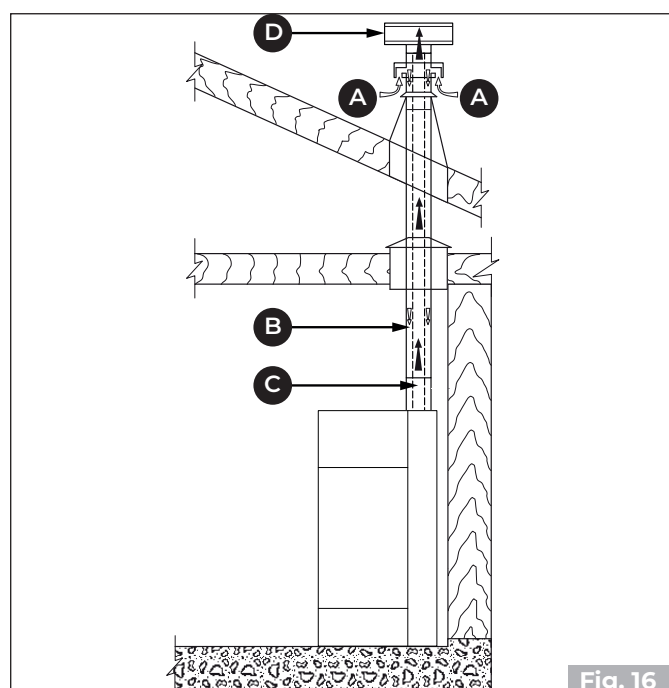
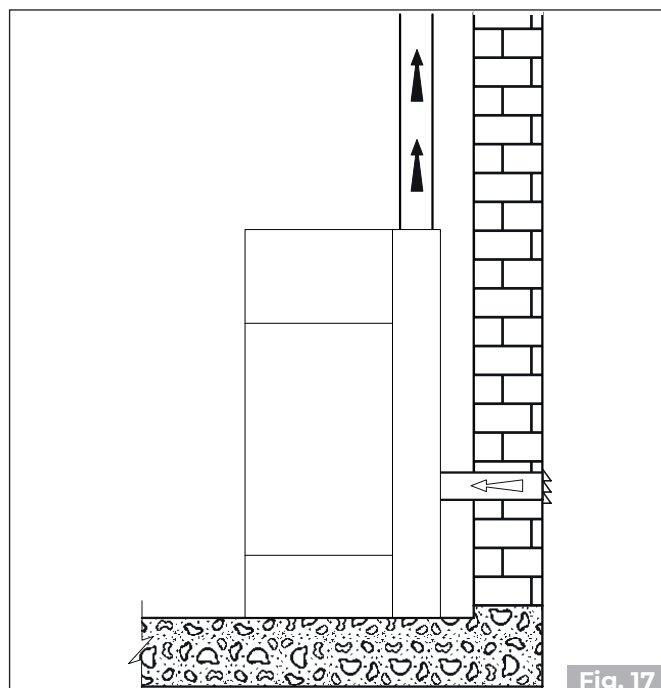
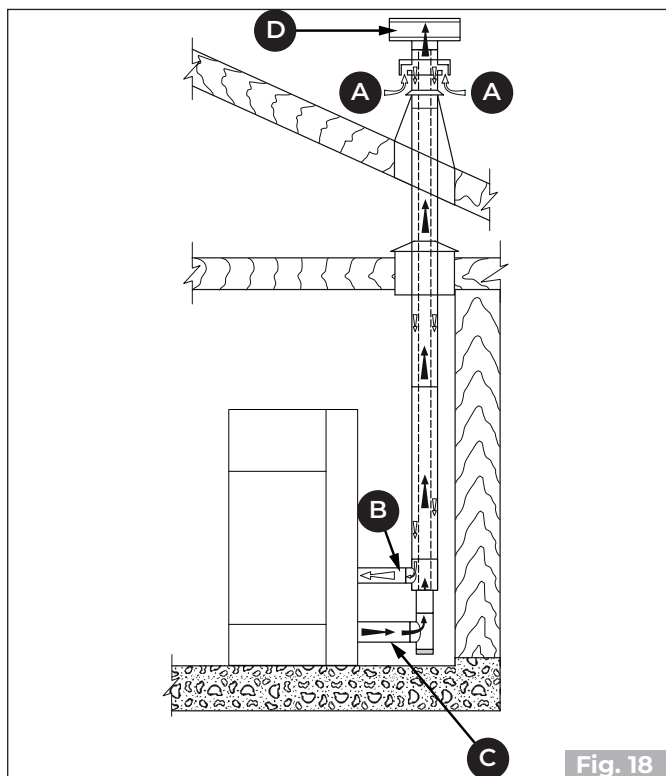
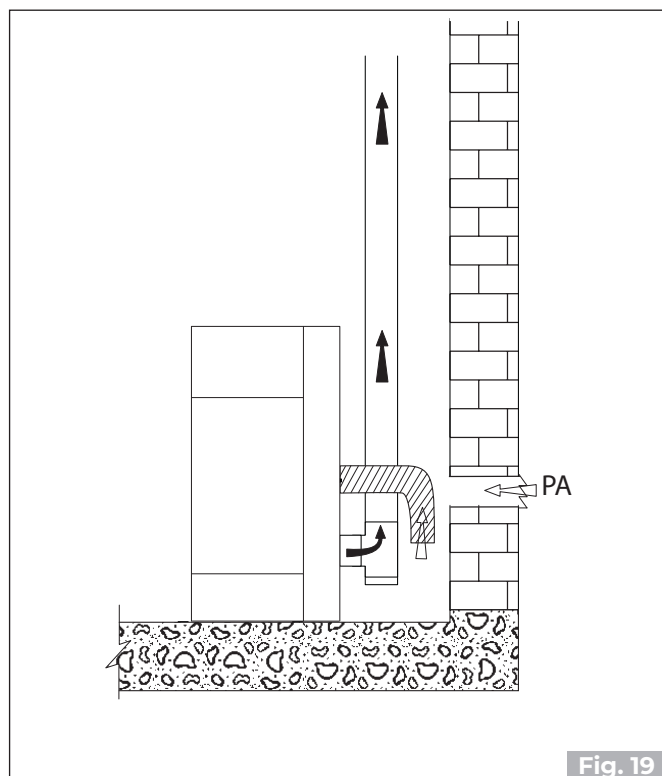

Fig. 16
Fig. 17
Fig. 18
Fig. 19
- it can come directly from outside with direct connection to the combustion chamber (**Fig. 16 - Fig. 17**).
- to channel the combustion air using a coaxial pipe to expel the flue gases and extract the air (**Fig. 16 - Fig. 18 - A, B = Air inlet, C, D = Flue gas outlet**); in this case it is not necessary to create a classic air intake in the room.
- to connect the combustion air inlet of the appliance to the air intake using a special pipe (**Fig. 17 - Fig. 19**).